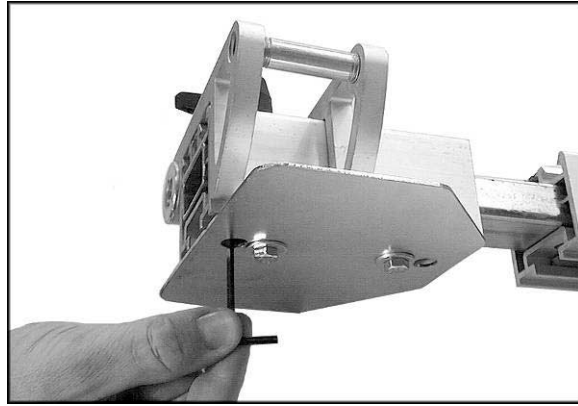
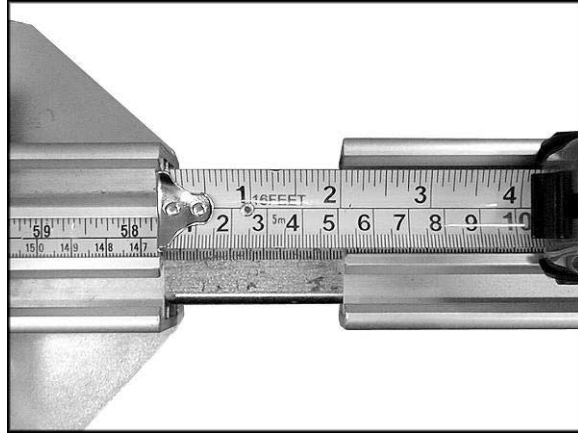

Figure 33
Figure 34
7. With a 3mm hex wrench, loosen the set screws underneath the short movable fence extrusion (Figure 33), and slide the extrusion to 2" of the fixed fence (Figure 34). Tighten the set screws.